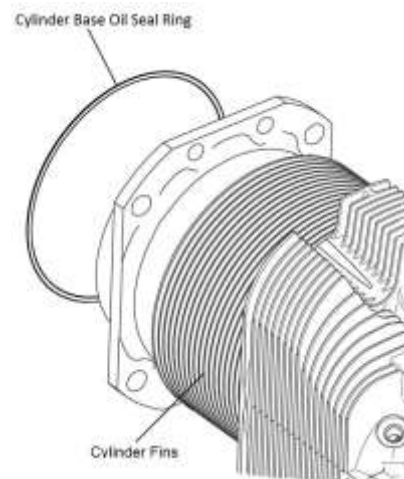

Figure 19
- T. Remove the cylinder base oil ring from the cylinder (Figure 19) and (as an option) keep it to use as support for the connecting rods after the pistons are removed.